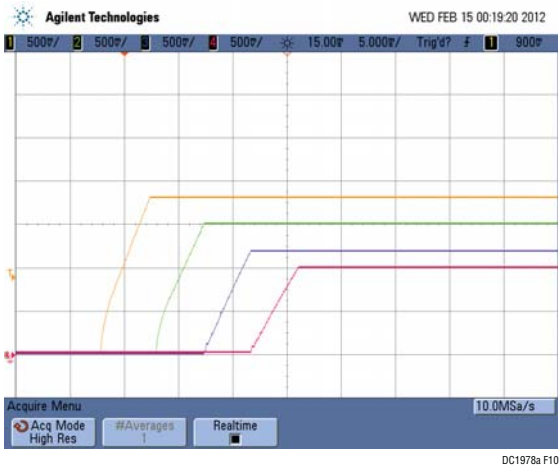

Figure 10. Cascade Sequencing Up with DC1978A
8. The power supplies cascade ON/OFF as shown in Figures 10 and 11 below.